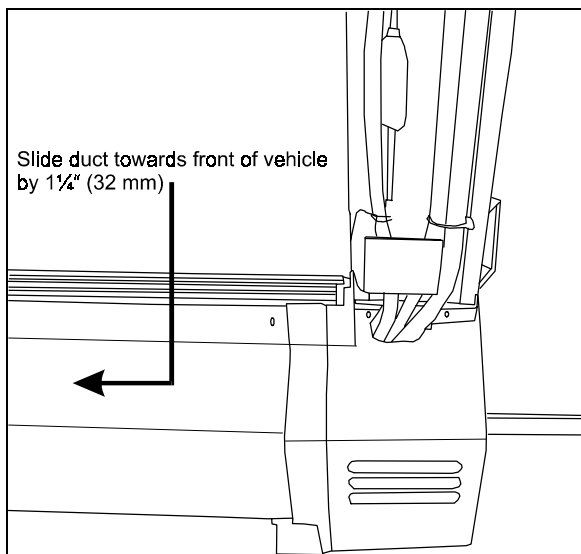

FIGURE 5
3. Slide the stainless steel duct towards front of vehicle by 1/4" (32 mm) (refer to figure 5).